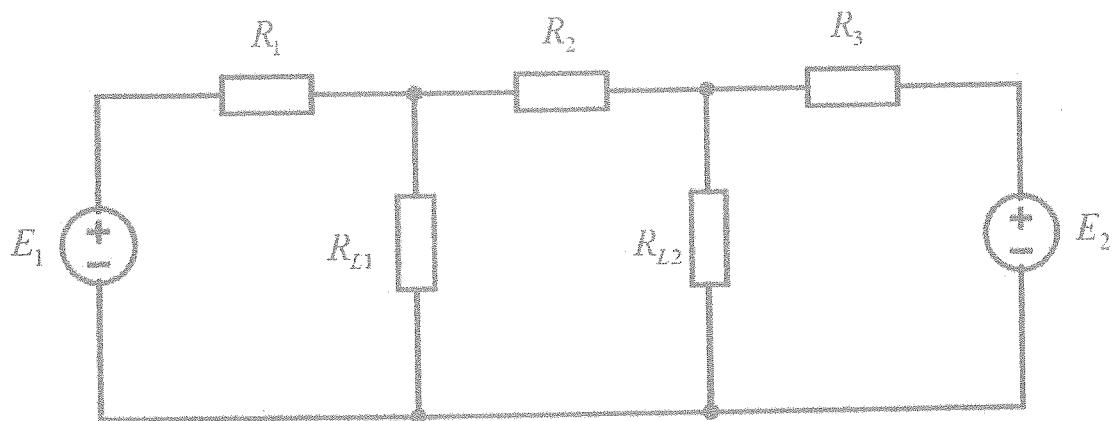

Figure Q1.2
- c) Consider the circuit diagram given in Figure Q1.2, where R_{L1} and R_{L2} are the two loads in the circuit. The resistance and voltage values in the circuit are given by;